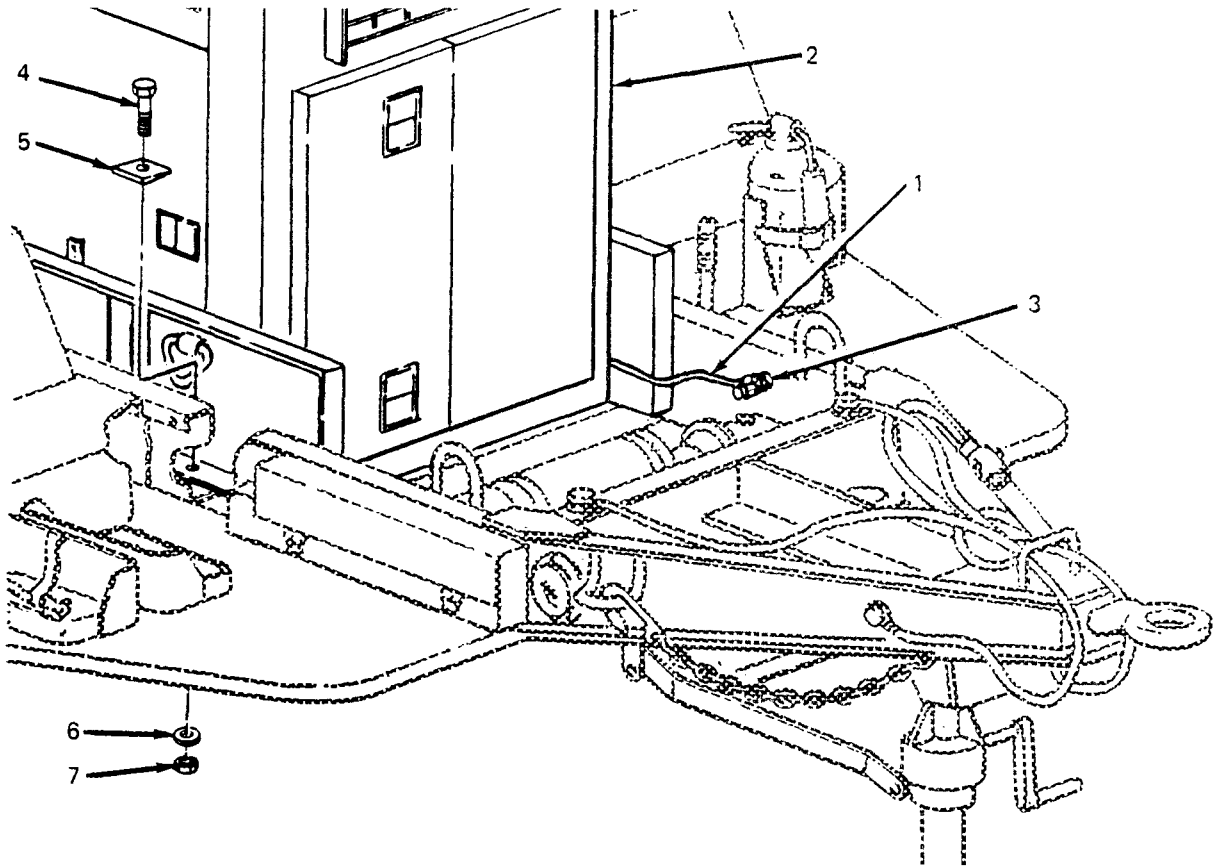

Figure 5-3. Detaching Generator Set from Trailer.
**5-5. Generator Set Replacement.** (See figures 5-3 and 5-4.)
- (1) Disconnect ground wire (1, figure 5-3) from generator set (2) to GROUND TERMINAL stud (3) on trailer.
- (3) Insert eight screws (4, figure 5-3) with beveled washers (5) down through generator set skids into railer.
- (4) Working under trailer, install one flat washer (6) and one nut (7) on each screw (4).
- (5) Position beveled washers (5) so that screw heads are parallel to tops of washers. While holding beveled washers in position, tighten hardware.
- (6) Connect generator set ground wire (1) to trailer GROUND TERMINAL stud (3).